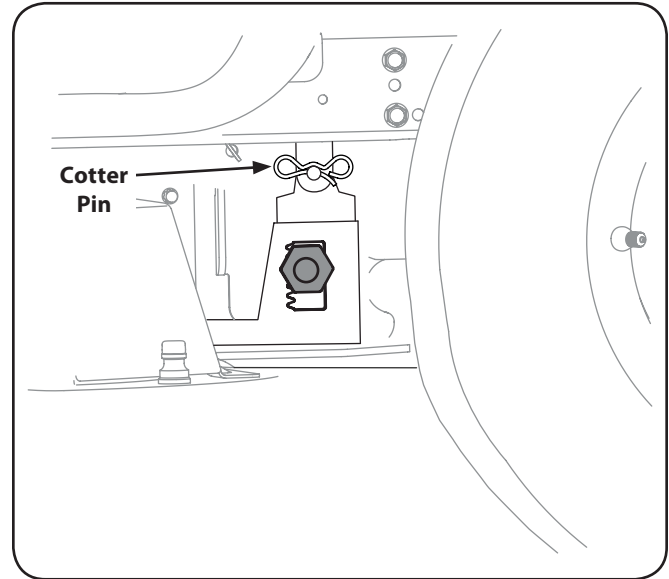

Figure 7-5
4. Pull the cotter pins out of the four deck lift adjustment brackets. See Figure 7-5.